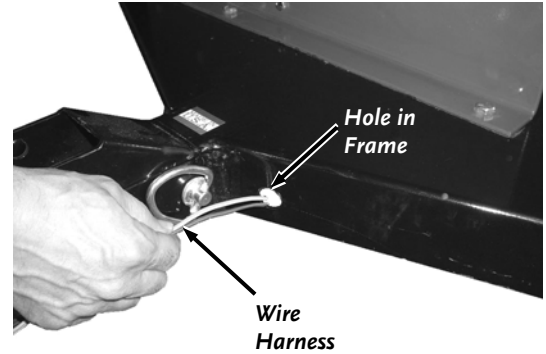

Figure 61
1. Push the Yellow/Brown and Green/Brown Wires of the Wire Harness through the hole in the front left side of the Frame (**Figure 61**).